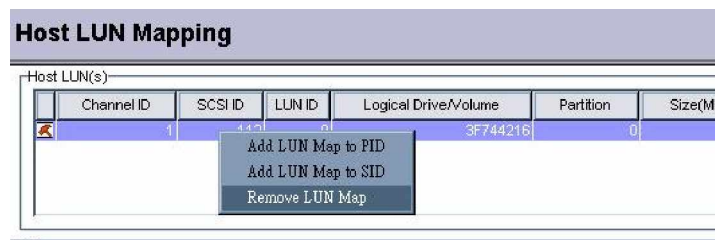

Figure 10-6: Delete LUN Command
Step 2. **Left-click** on a configured LUN and then **Right-click** on the adjacent area. A command menu displays as shown in *Figure 10-6*. Select the **Remove LUN Map** to complete the process.